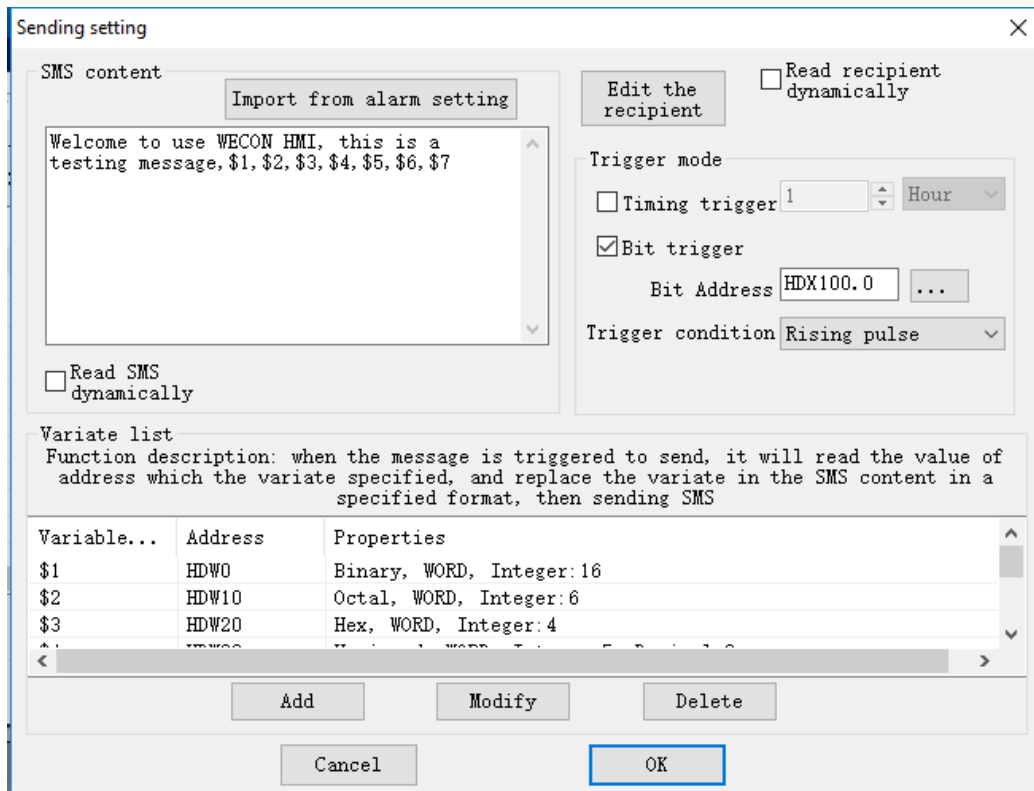

Figure 3
- Click [Add] to open the sending setting windows as Figure 3 shows;
- **SMS content:** user could input the text directly or read the content from alarm text, also it could support read content from some registers, like the FIG 3 shows, use “\$1”, “\$2”... FUZHOU FU CHANG WECON ELECTRONICS TECHNOLOGY CO., LTD.
- **Edit the recipient:** edit the receiver, as figure 4 shows, also use could import receiver from csv files. Also it could support “read recipient dynamically”, please use a text input/display object for phone number input, and the length for object is 8. In this mode, the SMS module will send to the default receiver and dynamical receiver. As FIG 3 shows.